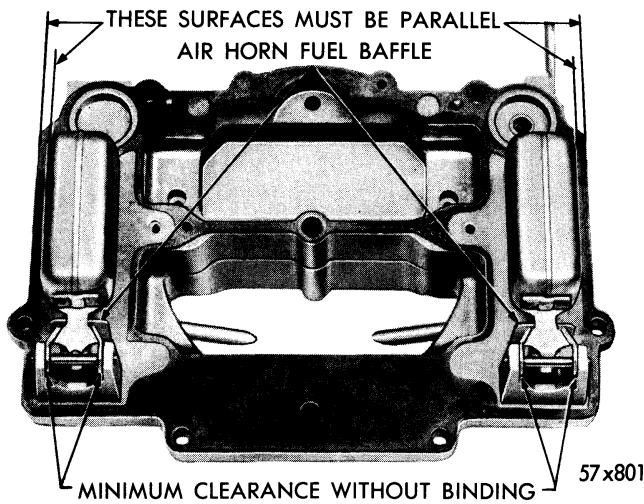

Figure 97—Checking Float Alignment
**Float Alignment Setting**—Sight down the side of each float shell to determine if the side of the float is parallel to the outer edge of the air horn casting, as shown in Figure 97. If the sides of the float are not in alignment with the edge of casting, carefully bend the float lever.